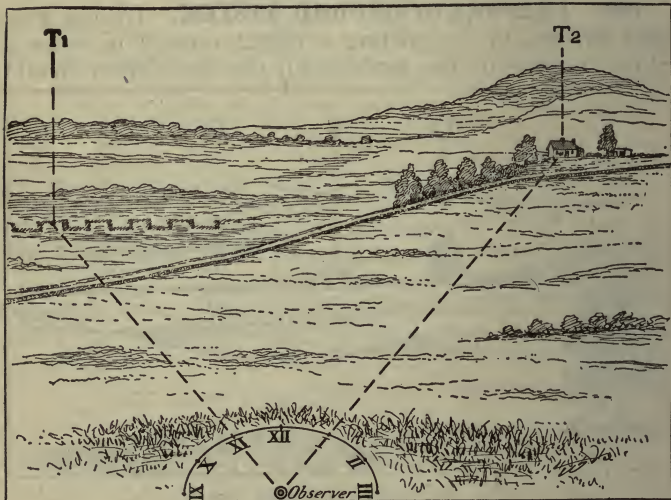

FIG. 31.—Horizontal Clock Face System.
**160. HORIZONTAL CLOCK-FACE SYSTEM** (or H. C. F.). (Fig. 31.) Imagine a clock face lying horizontal with its center at the firing point, and 12 o'clock directly to the front.